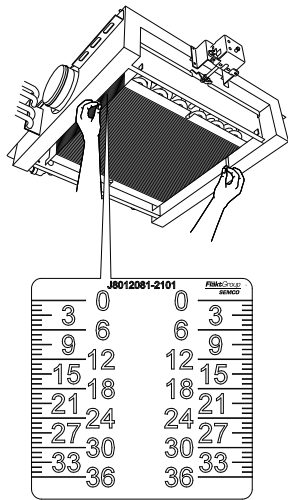

FIGURE 23
- 4) Adjust the faceplate to suit airflow needs. See **FIGURE 23**.
- 2) Once the blades are adjusted to suit the zone's needs, the airflow slots in the beam, must be adjusted to design primary airflow. This can be done with a screwdriver (See **FIGURE 23**).